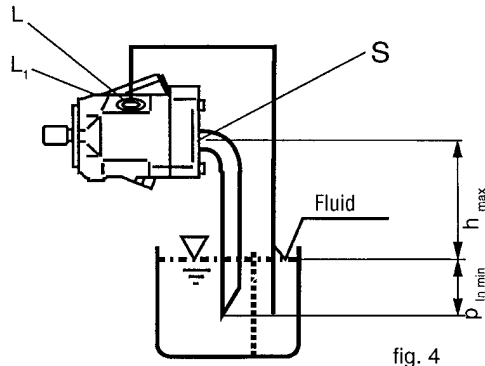

fig. 4
- b) If the minimum fluid level is below the top of the pump, pipe ports "L", "L1" and possibly "S" as fig. 4. The conditions correspond to item 1.2.1.
- a) When mounting above the tank, see fig. 4. Conditions correspond to 1.2.1.